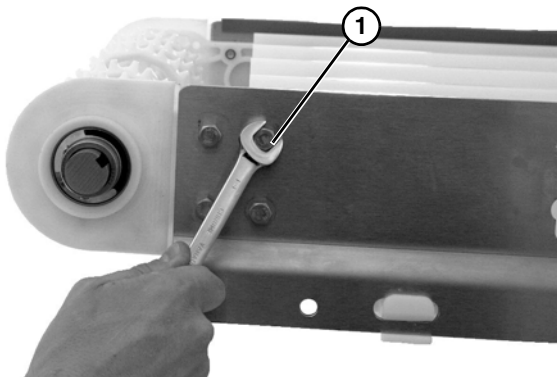

Figure 56
4. Remove the four head plate bolts (Figure 56, item 1) on both sides of the conveyor.